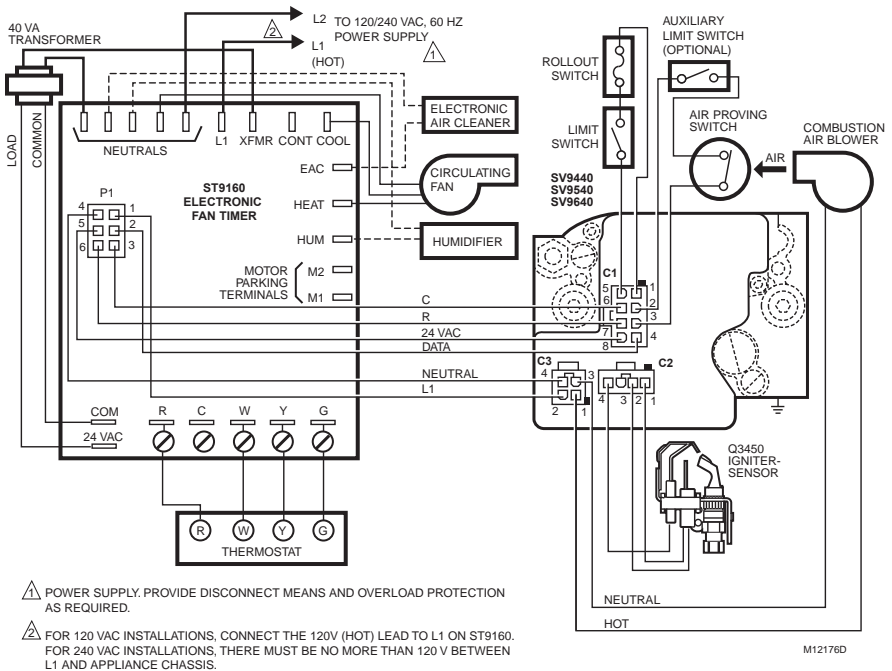

Fig. 7. Typical wiring connections in fan-assisted warm air furnace with ST9160 Electronic Fan Timer.
4. Connect control circuit to the ignition system control using the keyed connector. See Fig. 7 through 11.